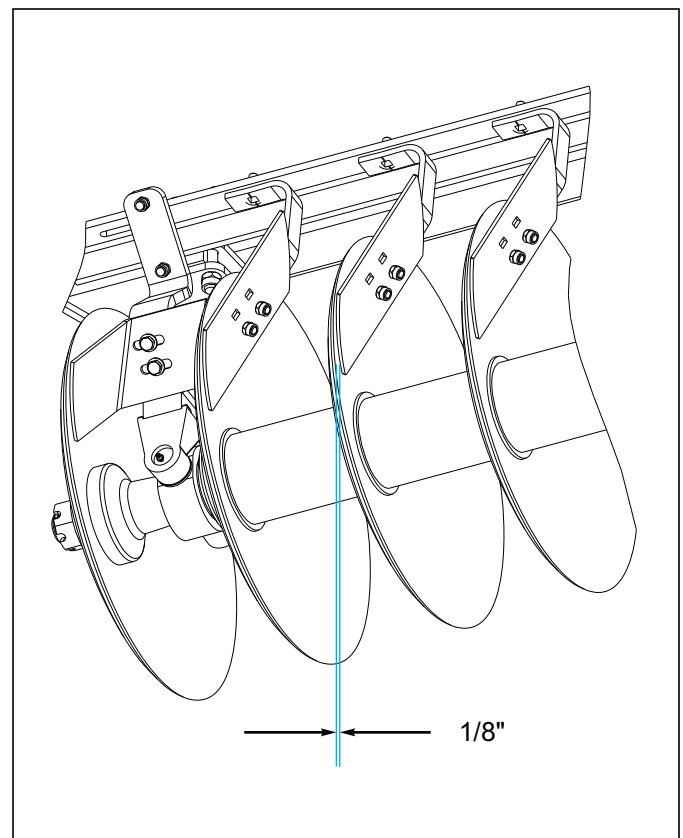

Figure 4-17: Scraper Adjustment
1. Rigid scrapers should be set initially as close to the disc blade as possible without rubbing (approximately 1/8") (See Figure 4-17.) A slotted hole at the top of each scraper is provided for individual adjustment. Adjustments may be made for entire gangs, by loosening the u-bolts around the angle-iron scraper bars and sliding the whole bar. Scraper arms are made of spring steel. In wet conditions, the scraper may be set against the disc blade and can function as a spring-loaded scraper.